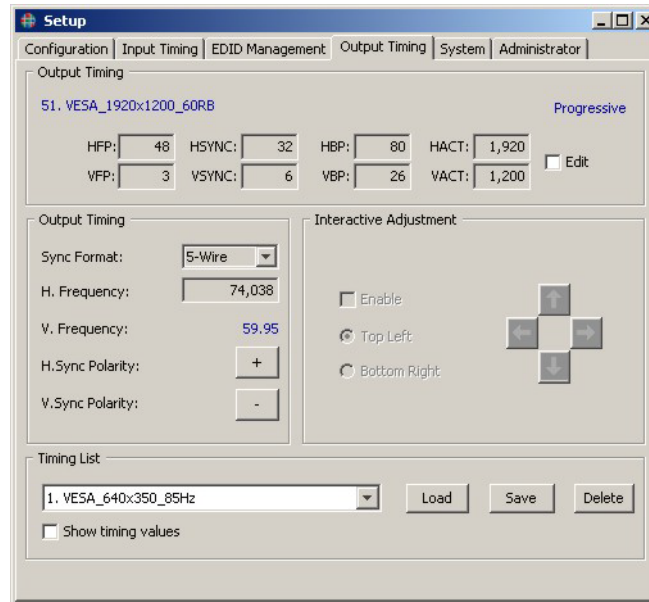

Figure 4-11 Setup Output Timing
2. Click on the **Output Timing** tab (Figure 4-11).